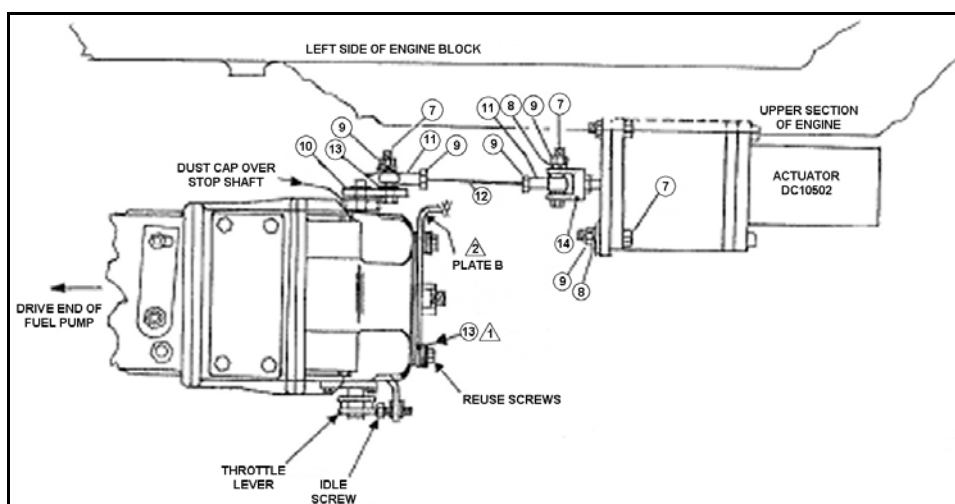

Figure 1. Left side above engine. Fuel pump is at 30° angle in top view.
See parts list for item numbers noted on **Figures 1** and **2**.
As shown in **Figure 1**, the electric governor linkage connects to a new stop lever (10). The G-Drive engine flywheel has 127 teeth. The mechanical governor throttle lever must be set and locked to operate the engine at 10% above nominal speed to avoid limiting fuel by the mechanical governor under full load.
- 1) Obtain from the parts kit the new stop lever (10). Install this lever on the stop shaft as shown in **Figure 1**. Use original retainer washer and screw.
- 2) Install the mounting bracket (3) using screws provided (5).
- 3) Install the actuator (1) on the mounting bracket using four each of mounting bolts (7), lockwashers (8), and nuts (9).
- 4) Install one rod end bearing (11) on the stop lever using two flat washers, bolts, lockwashers, and one nut. A flat washer is used on each side of the rod end bearing ball.
- 5) Install the other rod end bearing with a jam nut (9) on one end of the threaded rod.